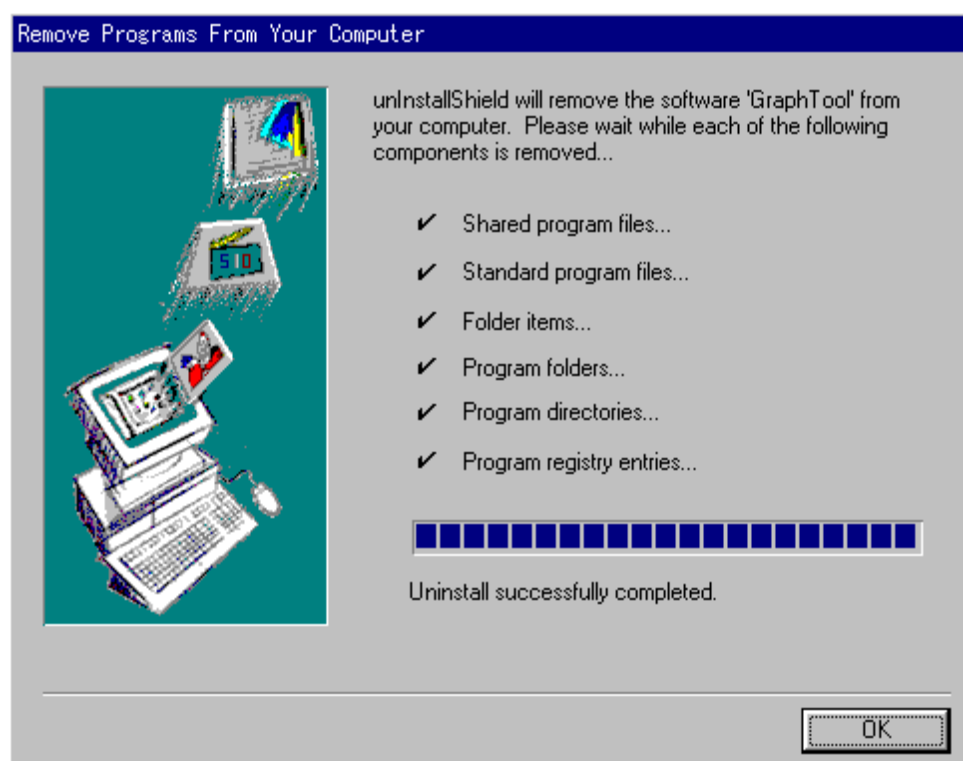

Figure 5.4 Uninstalling GraphTool
3. When the confirmation message appears, select **Yes** to uninstall the GraphTool. The Uninstall Shield starts, and the corresponding program files are deleted (see Figure 5.4).